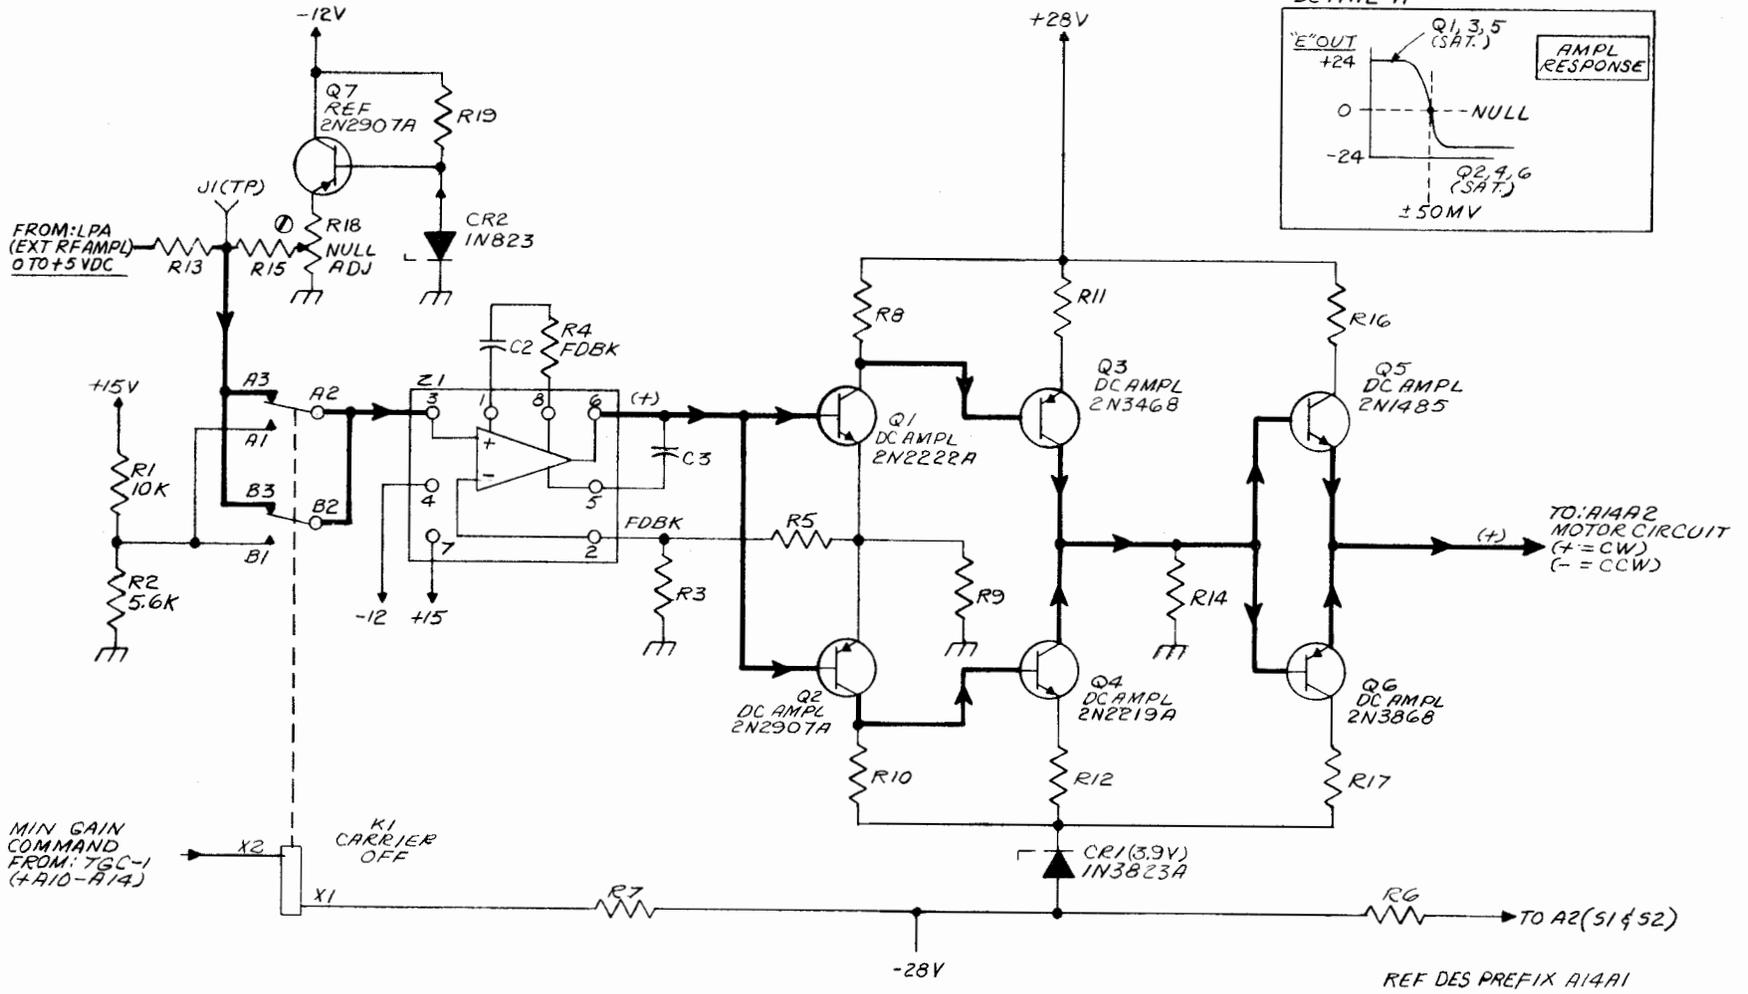

Figure 4-27. Amplifier A14A1, Simplified Schematic Diagram
4-24. TRANSMITTER GAIN CONTROL A14. (See figures 4-27 and 4-28.)
(1) AMPLIFIER A14A1. (See figure 4-27.) - When minimum gain relay K1 is de-energized, a dc voltage obtained by combining the LPA control voltage with a dc reference voltage supplied by stage Q7 is applied to the input of high-gain IC amplifier Z1. Null adjust control R18 sets the "zero input" level for Z1 (the LPA voltage equals the reference voltage) and Zener diode CR2 provides a stable dc reference voltage. R18 is adjusted to accommodate the LPA circuit characteristics (usually 3 to 4 vdc). Output from Z1 is applied to amplifiers Q1 through Q6, three complementary amplifier stages. Detail "A" shows the amplifier output range from Q5-Q6 for an input voltage having a negative polarity and changing through zero to a positive polarity. The "null" occurs within a ± 50 millivolt output level bracket. Feedback circuits at Z1 (C3, C2/R4, and R3/R5) stabilize the gain and frequency response. Zener diode CR1 regulates the -28 volt supply for amplifier stages Q2, Q4, and Q6.
(b) TGC Operation. - During operation the transmitter gain control (TGC) module operates in response to directions from the transmitting system. When a TUNE cycle is initiated, a minimum gain command from transmitter control no. 1 module A10 energizes minimum gain relay K1 (see figure 4-27) driving motor B1 clockwise for minimum rf output conditions.